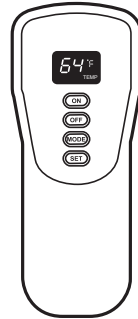

Figure 22 - Remote Control
4. Press the ON button on the remote control to light the burner (see Figure 22). You will hear a series of beeps. This will also "learn", or program, the remote and the receiver.
The factory setting for temperature is °F. To change this setting to °C, press the ON key and the OFF key on the remote control at the same time (see Figure 22, page 21). This will change from °F to °C. Follow this same procedure to change from °C back to °F.